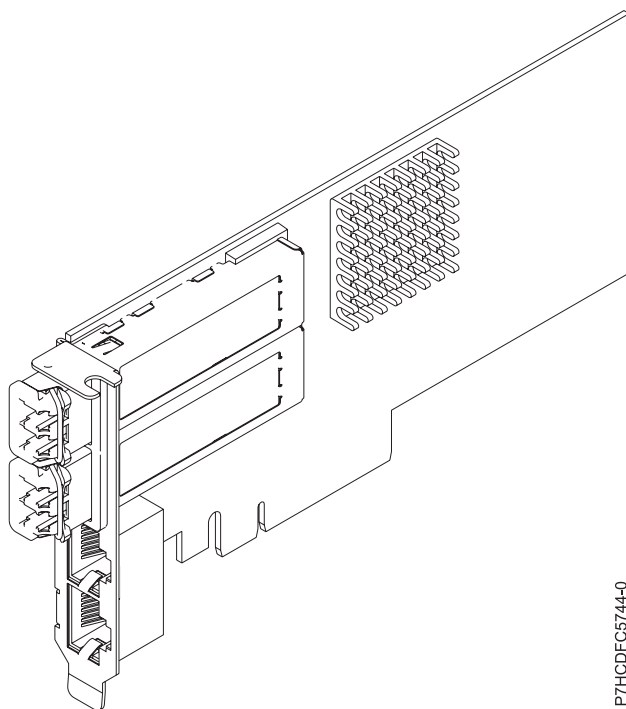

Figure 37. PCIe2 LP 2x10GbE SR 2x1GbE UTP adapter
The PCIe2 LP 2x10GbE SR 2x1GbE UTP adapter is a PCI Express generation-2, four-port Ethernet unified wire adapter with a PCI Express 2.0 host bus interface. The adapter is optimized for cloud computing, virtualization, storage, and other data center applications. The four port adapter provides two 10 Gb Ethernet ports and two 1 Gb Ethernet ports. The two 10 Gb small form-factor pluggable (SFP+) single root (SR) transceiver ports are used for connectivity with other servers or switches in the network. Each SFP+ (SR) port provides Ethernet connectivity with a nominal data rate of 10 Gbps (gigabits per second), and uses the SFP+ copper twinaxial cables up to 5 m (16.4 ft) in length. Each of the RJ45 ports provides Ethernet connectivity at a data rate of 1 Gbps. The link aggregation and failover features of the adapter are ideal for critical network applications that require redundancy and high availability. Figure 37 shows the FC 5745 adapter.